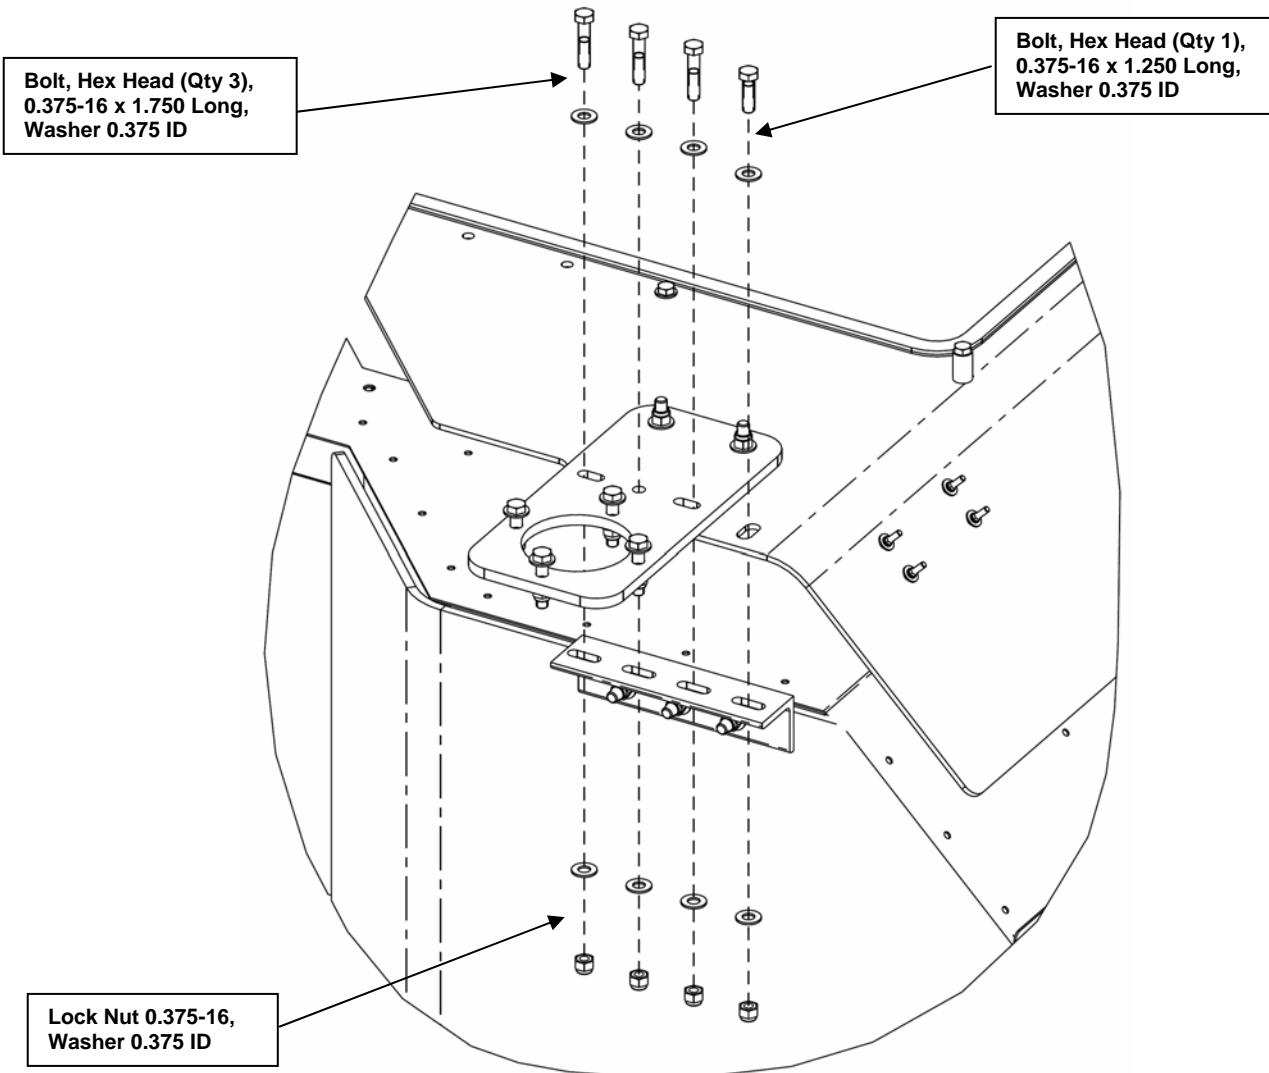

**Figure 42. Installing the Antenna Mount, Left Side.**
- h) Attach the Left Rear Panel to the roof using the hardware shown in Figure 42. Do not fully tighten the bolts at this time. Tighten the bolts such that the top of the top surface of the angled bracket is 0.00 to 0.60 in. from the bottom surface of the roof panel.
When installing the Rear Left Panel to the Armored Roof Panel, loosen the two bolts that attach the Side Rear Panel Assembly to the Rear Left Panel. This will allow the parts to move into the correct position as the bolts shown in Figure 42 are tightened.